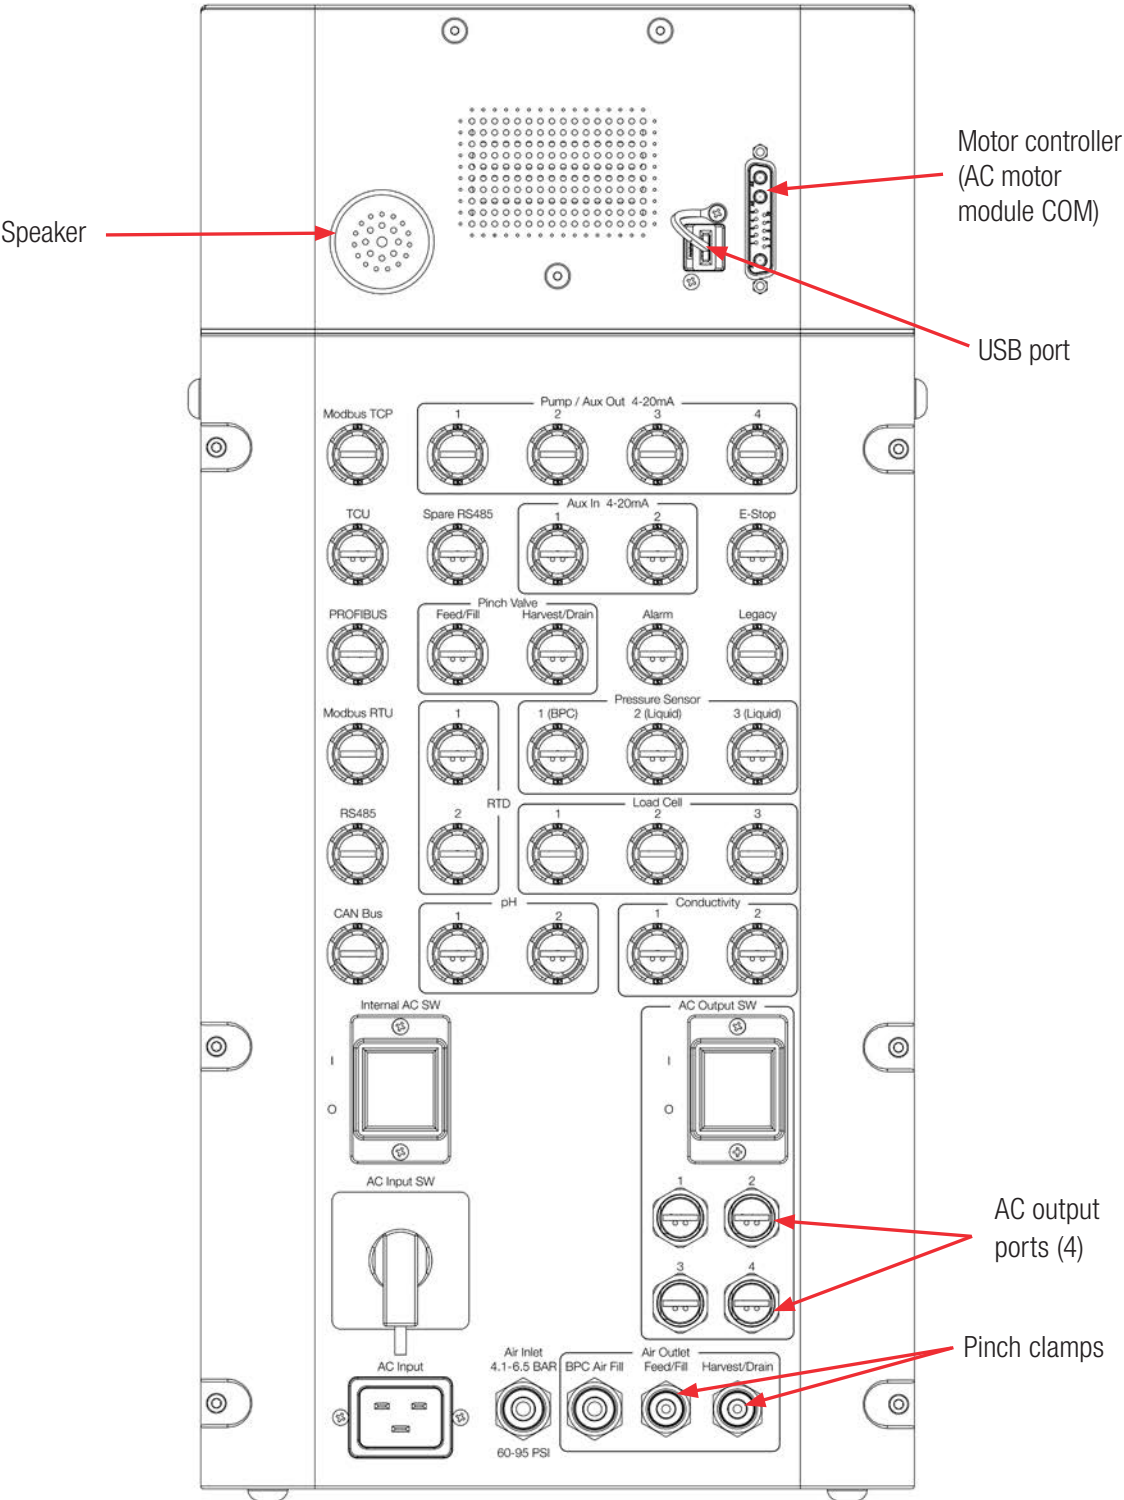

Figure 3.1. Ports and connections on the back of the Touchscreen Console.
Figure 3.1 illustrates the back panel of the Touchscreen Console. The various ports are labeled on the unit for your reference.
4. To connect air to the S.U.M. system, connect an 8 mm (5/16 in.) OD air line (Figure 3.4—not supplied) from the first pneumatic air port on the back of the Touchscreen Console (Figure 3.1) to the facility air supply. **CAUTION:** Air pressure to the Touchscreen Console should be between 4.14–6.55 bar (60–95 psi).